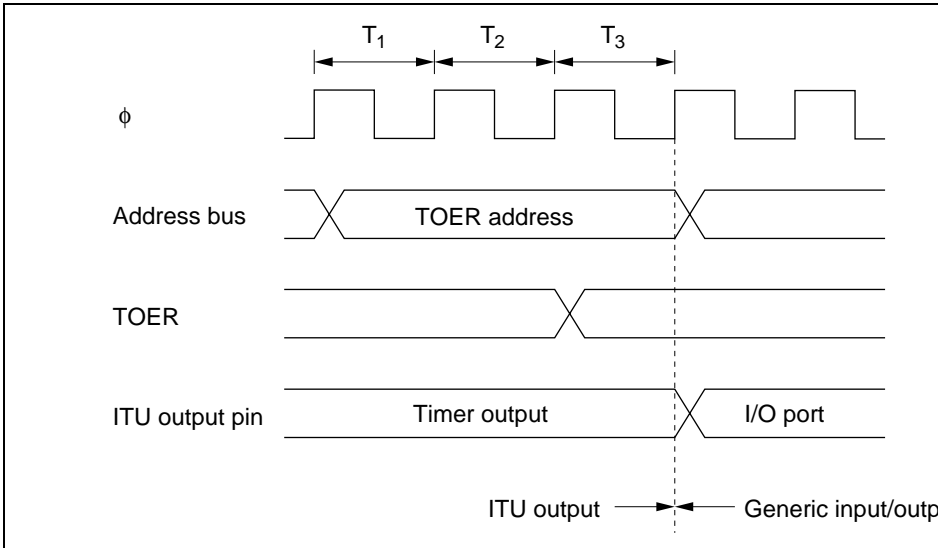

Figure 10.54 Timing of Disabling of ITU Output by Writing to TOER (Example)
arbitrary value can be output by appropriate settings of the data register (DR) and data register (DDR) of the corresponding input/output port. Figure 10.54 illustrates the timing of enabling and disabling of ITU output by TOER.